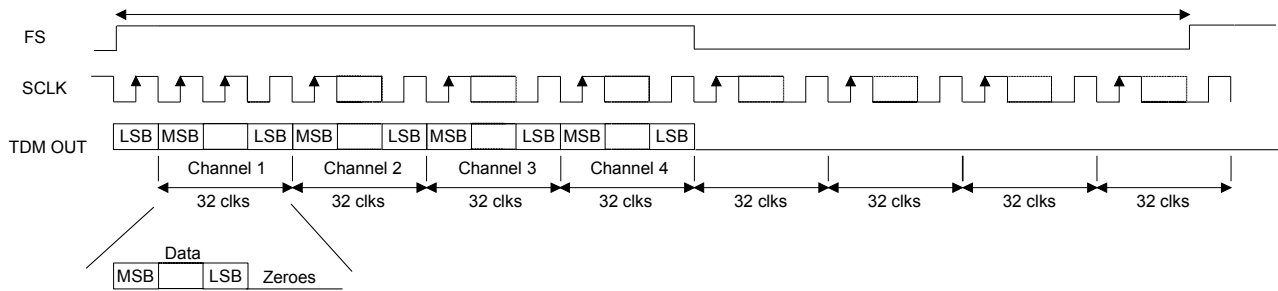

Figure 12. TDM Format
In TDM Mode, all four channels of audio data are serially clocked out during a single Frame Sync (FS) cycle, as shown in Figure 12. The rising edge of FS signifies the start of a new TDM frame cycle. Each channel slot occupies 32 SCLK cycles, with the data left justified and with MSB first. TDM output data should be latched on the rising edge of SCLK within time specified under "Serial Audio Interface - TDM Timing" section on page 16. The TDM data output port resides on the SDOUT1 pin. The TDM output pin is complimentary TDM data. All SDOUT pins will remain active during TDM Mode. Refer to Section 4.11 "Optimizing Performance in TDM Mode" on page 29 for critical system design information.